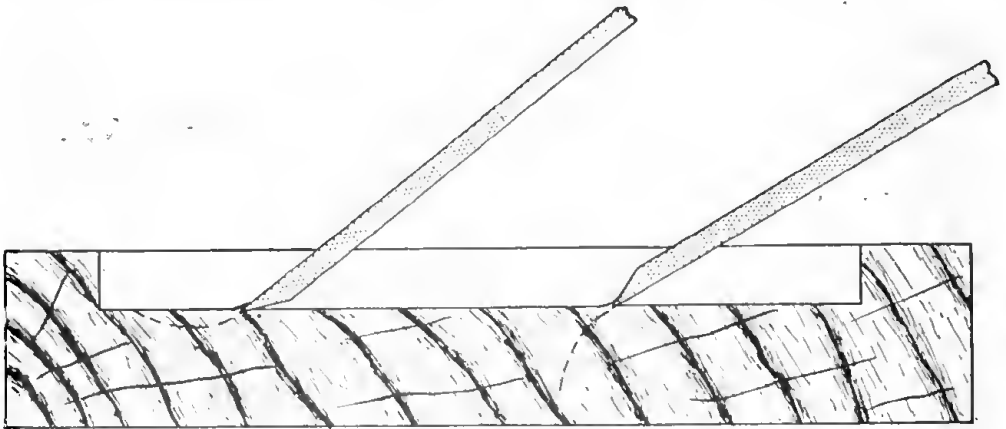

Figure 104. Effect of bevel on direction of cut.
(2) A chisel is used to cut recesses in wood. Holding the chisel with the beveled edge against the wood will cause it to cut out of the work. Holding it with the beveled edge away from the wood will cause it to cut into the work. (See fig. 104.) In cutting a recess, the chisel is first held perpendicular to the wood at the edge of the proposed recess with